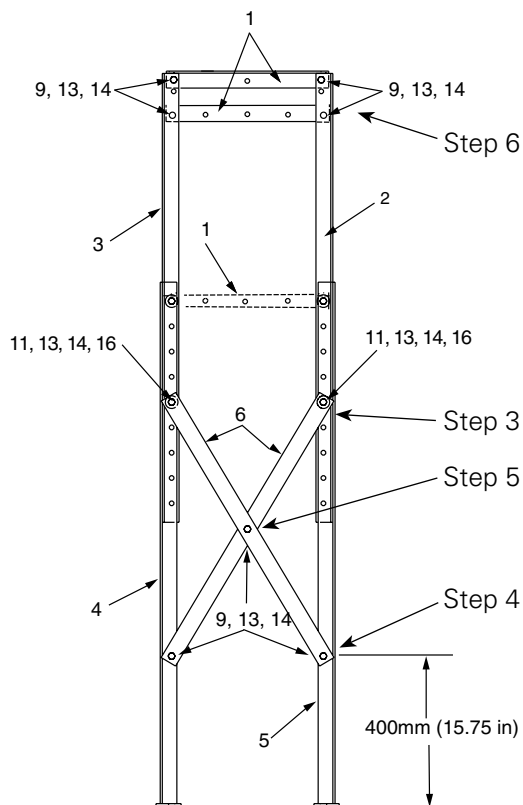

Figure 9. Assembling narrow side of frame.
- Attach two support angles (Item 1) to the upper ends of the upper posts (Items 2 and 3) and one support angle on the control side of the assembly with 1.25" hex head capscrews (Item 9), and secure with lockwashers (Item 14) and .5" hex nuts (Item 13). See Figures 9 and 10. Place control-support angle 533 mm (21") above lower support angle, measured screw to screw.